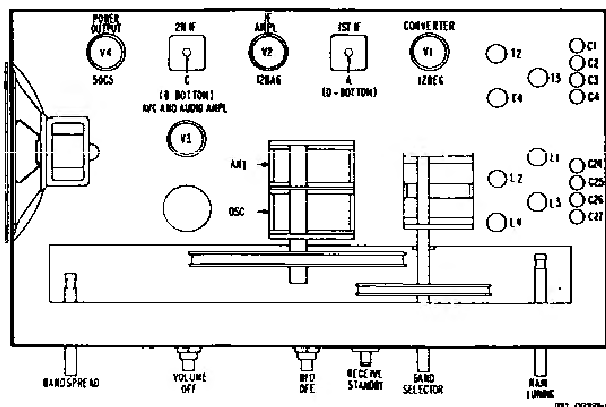

Figure 4. Chassis, Top View
- Refer to figures 4 and 5 for location of adjustments.